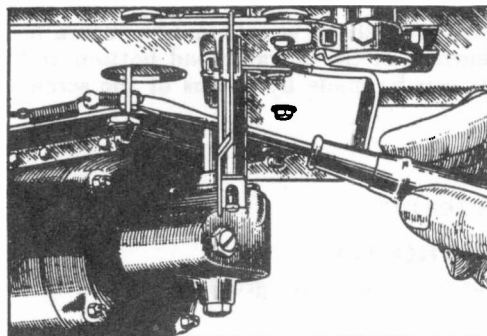

Figure 7—Adjusting tone arm cable tension screw
- (e) **Incorrect adjustment of cable tension screw.** The cable tension screw shown in Figure 7 should be so adjusted that the needle will lower smoothly onto the record without dropping. When this adjustment is obtained, the cable will be slightly loose when the needle is lowered onto a record. Loosen the lock nuts, turn the screw to the right or left as required and retighten the lock nut. Check the adjustment to make sure that the needle clears the record on the return of the tone arm. The needle should rise $\frac{1}{16}$ " from the record before any horizontal motion takes place.
(5) NEEDLE FAILS TO CLEAR RECORD AFTER PLAYING